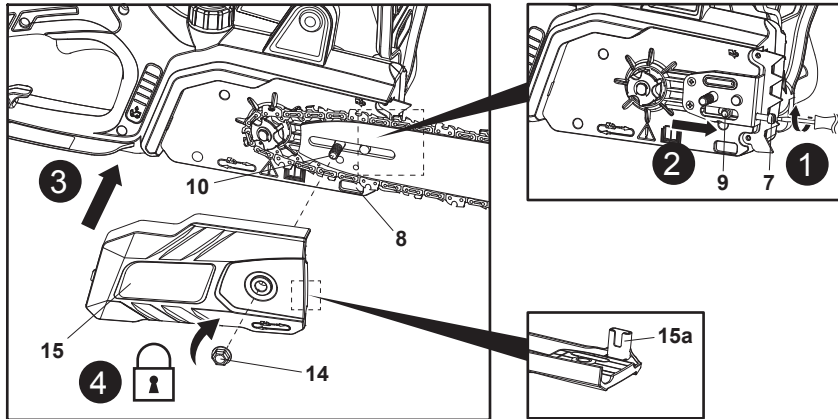

Fig. 5
8. Screw the tension screw (7) clockwise out to adjust the tension pin (9) / guide bar (13) towards the right to tighten the saw chain (12) with a suitable screwdriver (not supplied), then align and place the chain saw cover (15) over the mounting bolt (10) (Fig. 5, steps 1, 2, 3).
9. Attach and slightly tighten locking nut (14) clockwise with the supplied wrench (25) (Fig. 5, step 4). Ensure that the spigot (15a) engages correctly in the slot (8). Do not tighten the locking nut (14) completely as saw chain tensioning is required first.